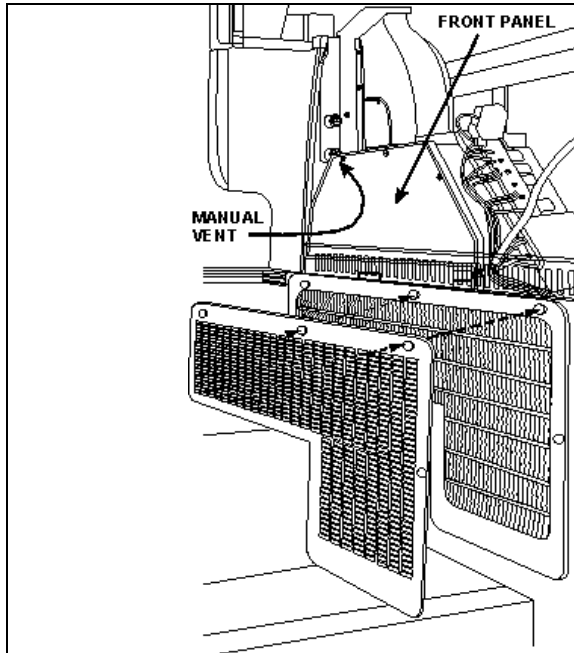

FIGURE 41: DRIVER'S HVAC UNIT
4. From inside of vehicle, remove the two finishing panels in front of unit. Remove the three screws fixing the unit front panel. Open the manual vent located inside the HVAC unit, on the driver's side (Figure 41) to ensure an efficient draining.
Whenever the heating system has been drained and refilled, or the system has run low on coolant and coolant has been added, it is necessary to bleed air from heating system. Locate the manual vent illustrated in Figure 41, and open momentarily until no air escapes from the line.